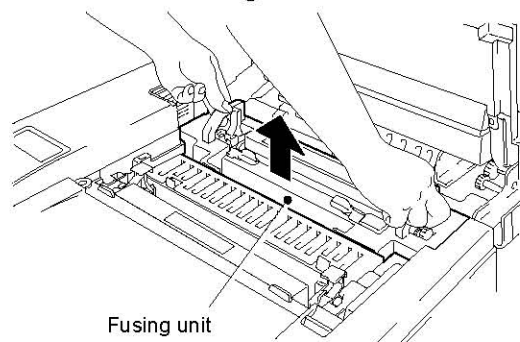

Fig. 6-16
- (1) Prepare a new fusing unit before starting the replacement work.
- (2) Set the fusing unit pressure release levers to the SET position. (Fig.6-16)
- (3) Install the oil bottle and fuser cleaner to the new fusing unit.